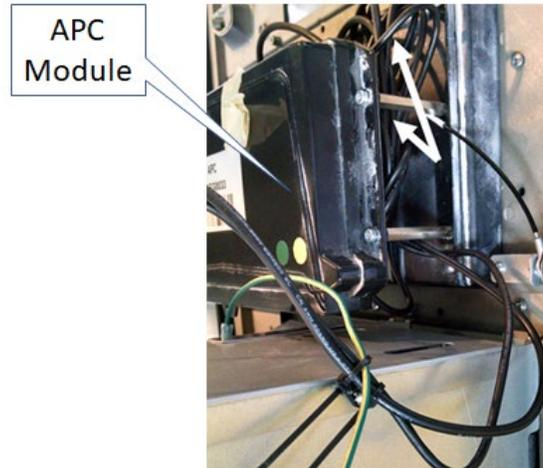

Figure 217
27) Then tuck excess cable loop up under the APC module (identified in the figure below) and above the printer. See Figure 217 below.
**Note:** On the B-Side, the printer ground wire does not have to be routed up and over the inner top of the dispenser since the heater is on the opposite A-Side. For the B-side printer, the printer ground wire can be bundled with the loop of printer cables that already are being tucked away up under the APC module (identified previously in Figure 217).